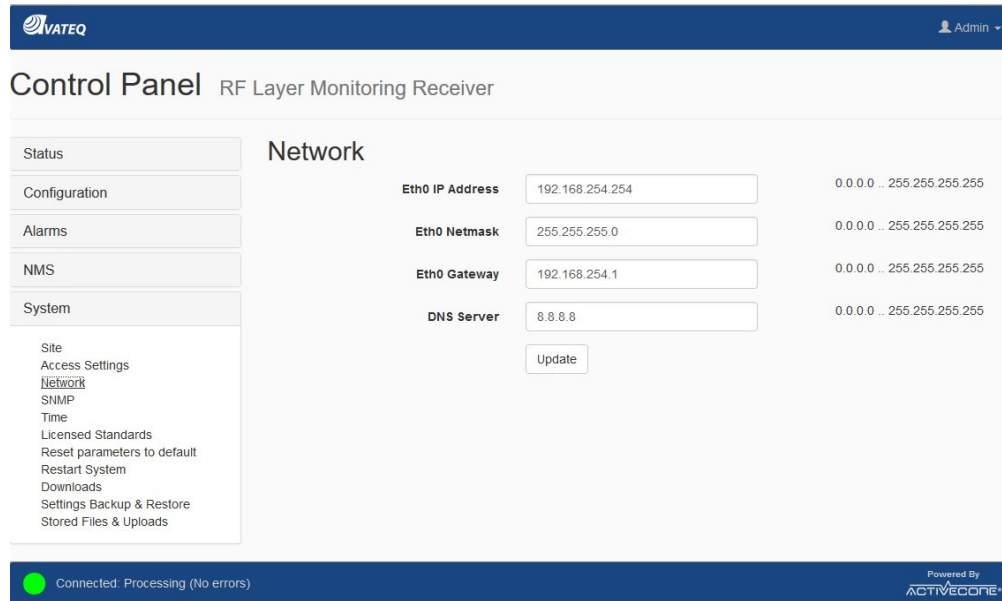

Figure 5. Network Settings
- once logged-in, navigate to Control Panel->System->Network (Figure 5) and adjust the Receiver Network interface settings.